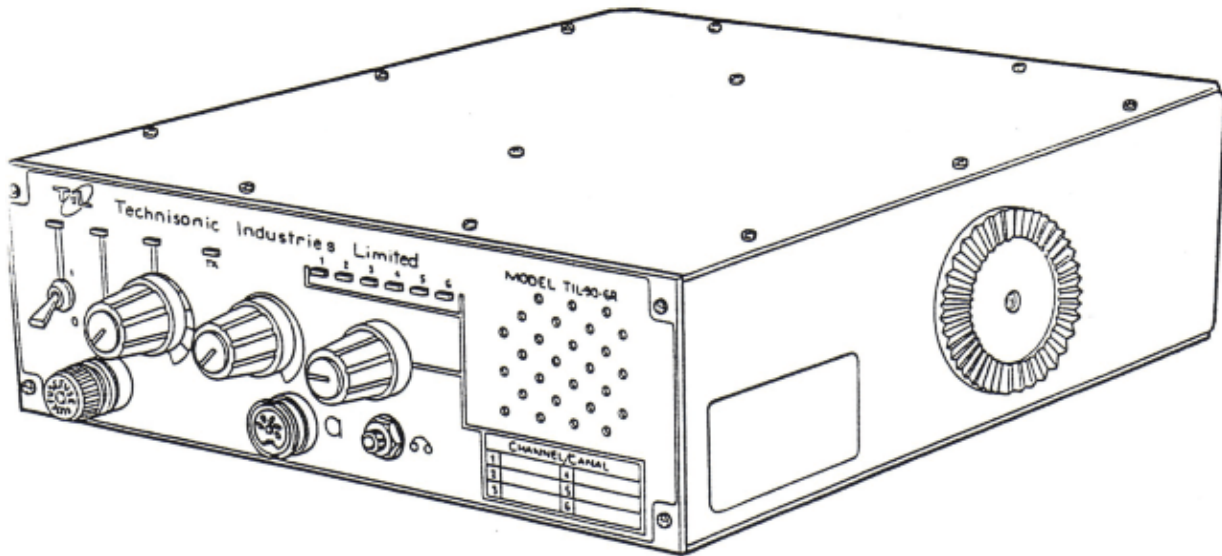

Figure 1.1 Transceiver - General View
- (1) **Intended Purpose and Use** - The system is intended for installation in airport service vehicles, such as cars, snowploughs, and grass cutters, to allow ground control over such vehicles while they are negotiating aircraft manoeuvring areas.
- (2) **Brief Description of System Units** - VHF/AM Mobile Transceiver System 860605 (TMS-100) consists of the following items:
- (a) Transceiver Model 90-6R, Part Number 861605-2, Series 1, is a low power VHF/AM transceiver which operates in simplex on six pre-programmable frequency synthesized channels, with 25 kHz channel spacing in the frequency range of 117.975 MHz to 138.000 MHz. The transceiver operates from a 12 volts dc nominal vehicle power supply (negative ground only). An optional extra cost dc to dc convertor P/N 863118-1 can be installed in the transceiver to allow operation from an input supply from 10.8 to 30.0 VDC. A general view of the transceiver is given in Figure 1.1. The transceiver is normally located under the dashboard of a vehicle using a mounting bracket and mounting hardware.